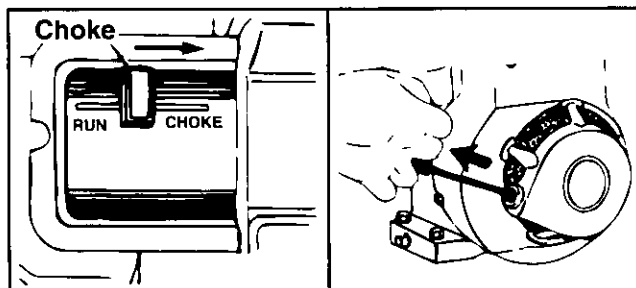

FIGURE 6.
5. Grasp starter handle (see figure 6) and pull rope out slowly until engine reaches start of compression cycle (rope will pull slightly harder at this point). Let the rope rewind slowly.